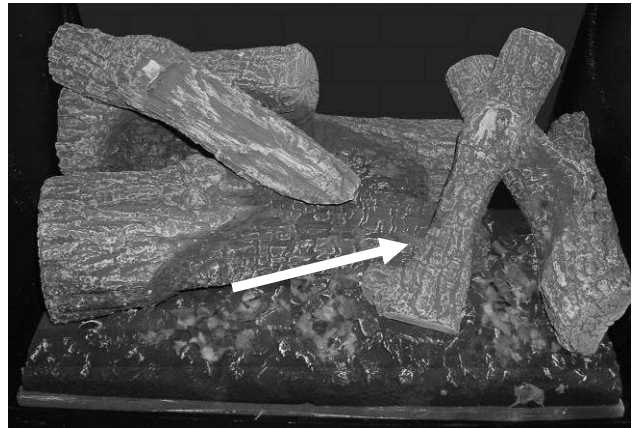

Figure 23 – Log 5 Position
- Gently place Log 5 in the indentation on the burner and rest it on log 3 as shown in Figure 23.